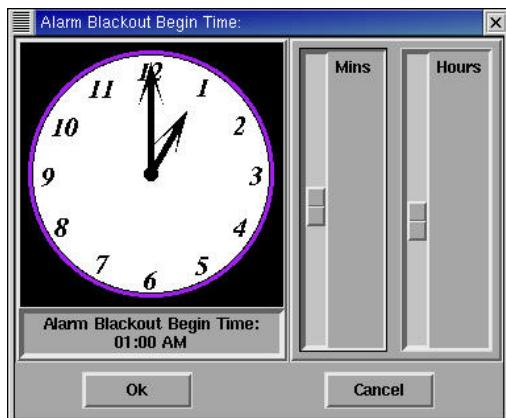

Figure 4d – Silence period time setting
- q) **Silence period:** If this box is checked, you can override the “Alert Tones” settings for specific periods during the day. You set these by clicking on the boxes labeled “Begin Time” and “End Time”. Figure 4d shows the GUI used to set these times.
If this **Silence period** box is selected and the silence period is specified, NWRWAVES will send a Red Banner (See Figure 4d.1) when the silence period is ended to alert the forecasters to use the CRS system to resend the product with Alert/Interrupt if required.